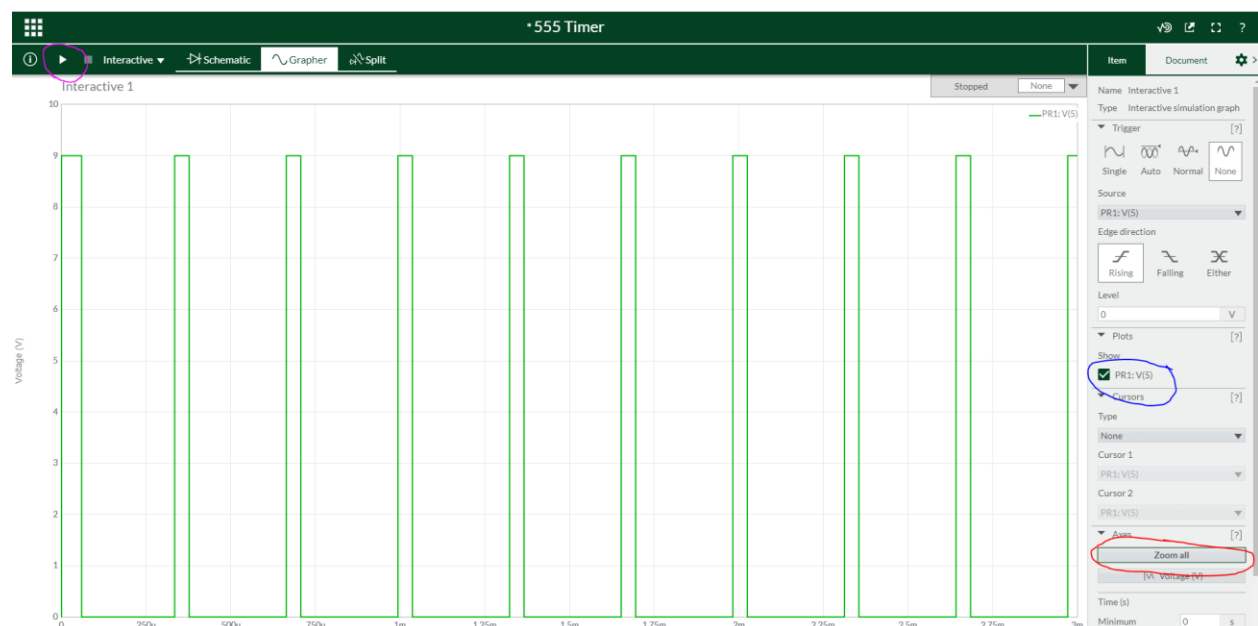

Figure 7: The Grapher shows the timing diagram of all the probes places in the schematic.
7. Click on Zoom all (circled in red in Figure 7) to see the entire timing diagram.